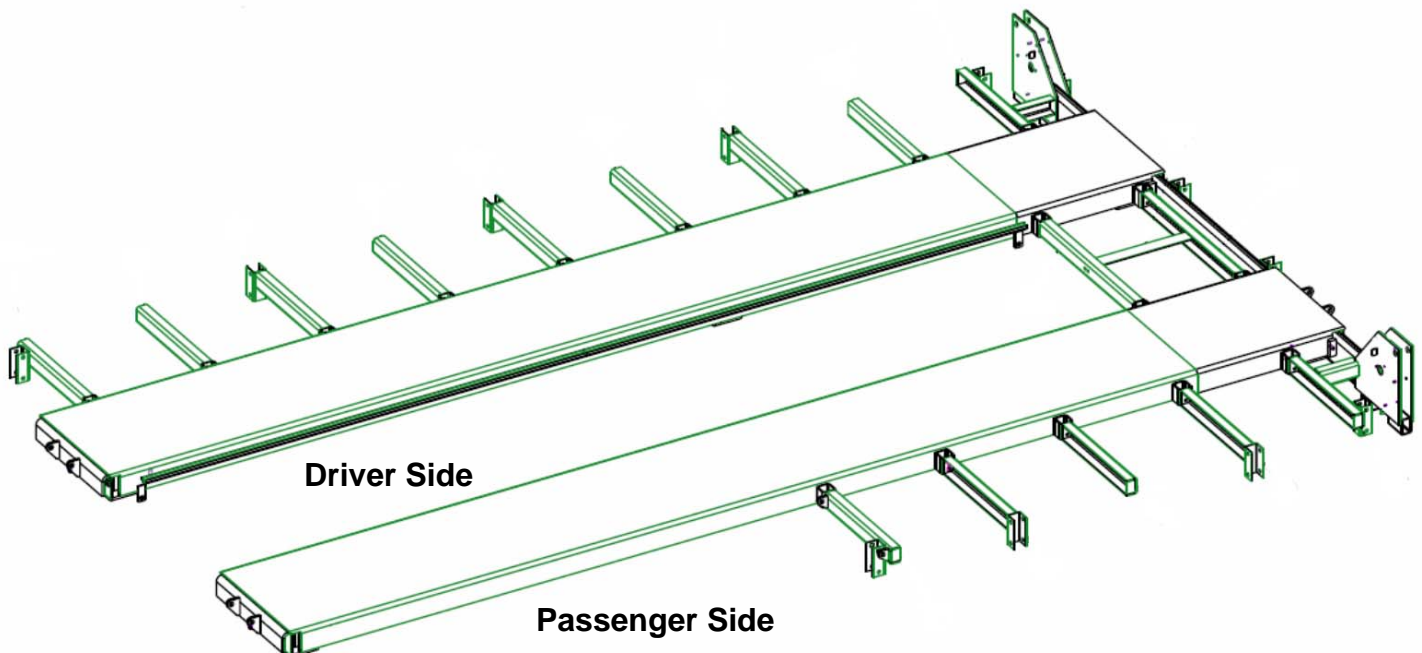
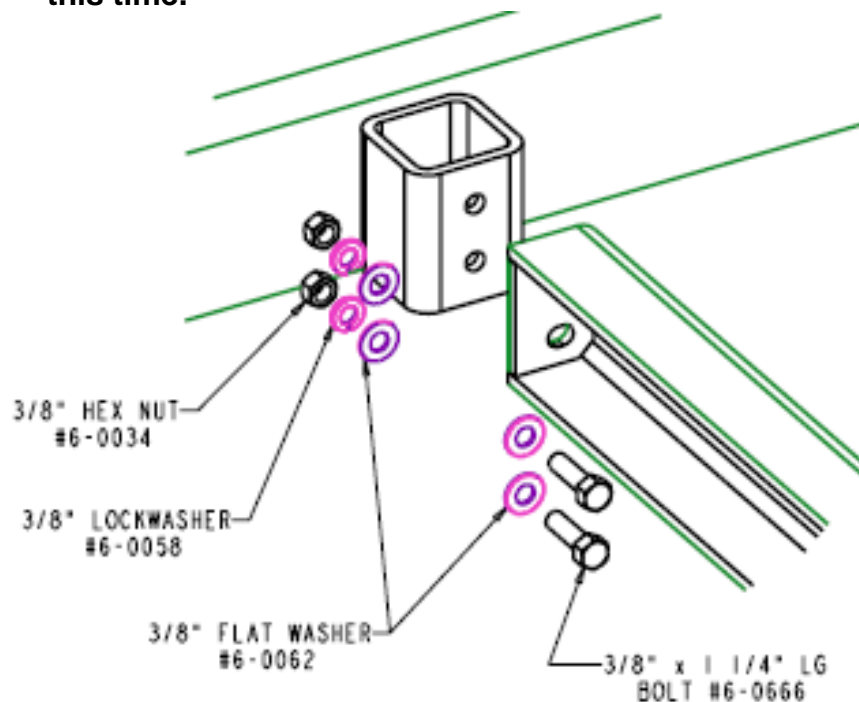
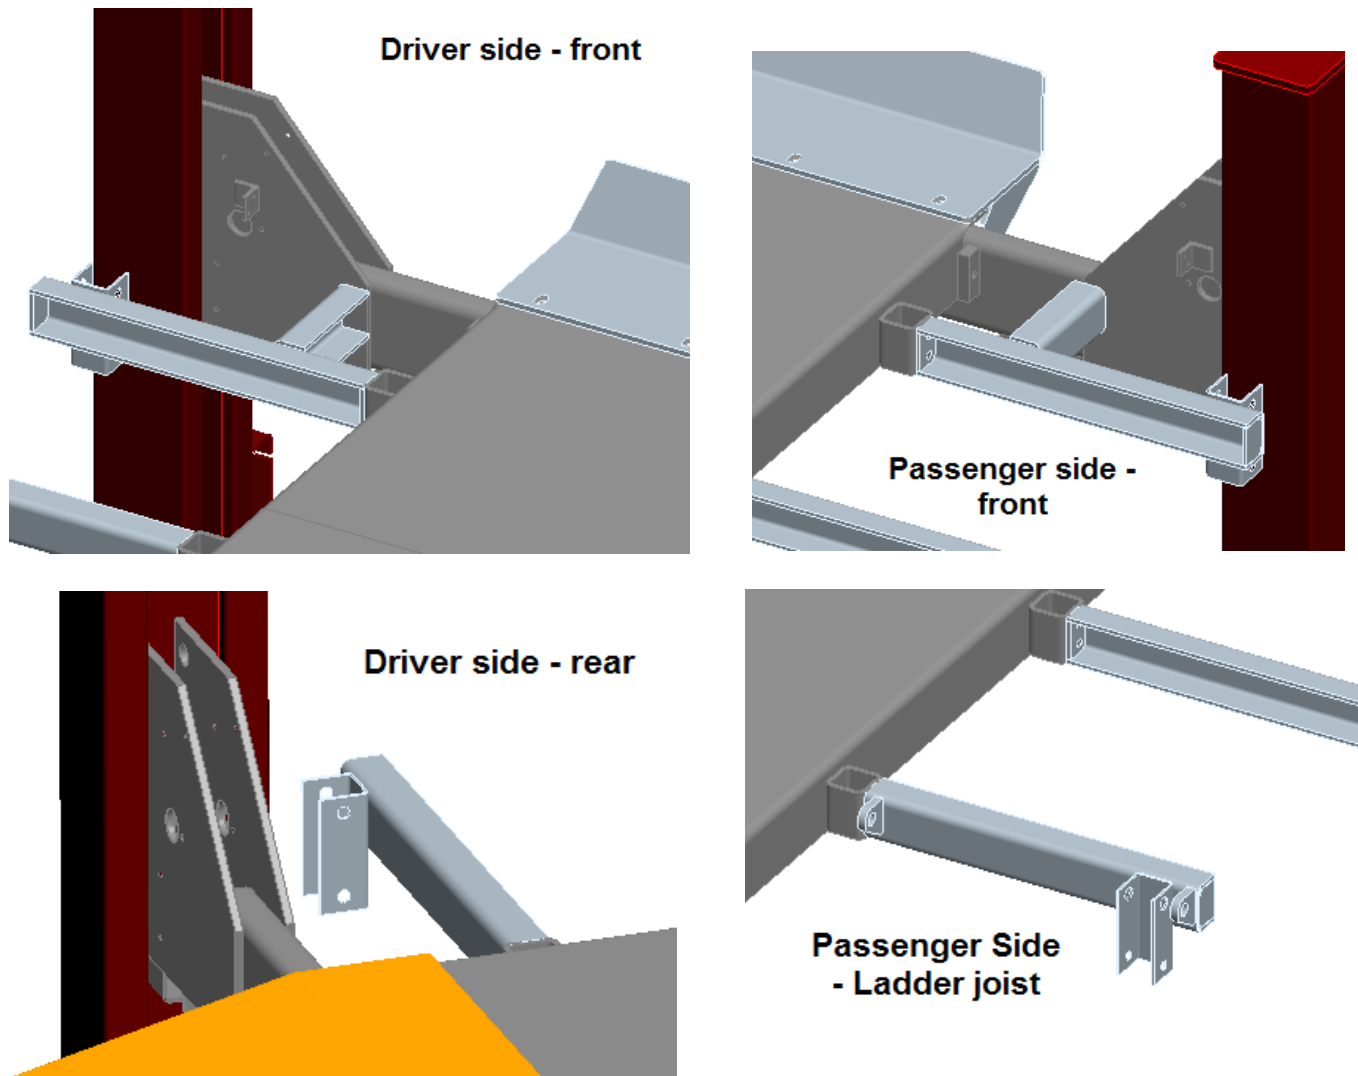

Figure 15 - Joist arrangement
Figure 17 – Joist Assembly
Figure 18 – End Joist Assembly
1. Refer to Figure 15 while reading through these instructions.
- Attached each end of the joists to the square mounting blocks on the inside of the lift. Refer to Figure 17 for hardware arrangement. **Do not tighten bolts at this time.**
5. Install all end joists using the same hardware as shown in Figure 17 to the outsides of the driver side and passenger side decks. Use the diagrams below (Figure 18) for individual views. **Do not tighten bolts at this time.** When fastening joists, ensure the post brackets are towards the floor.
6. Install all other joists following pattern shown in Figure 15. Install using hardware shown in Figure 17.